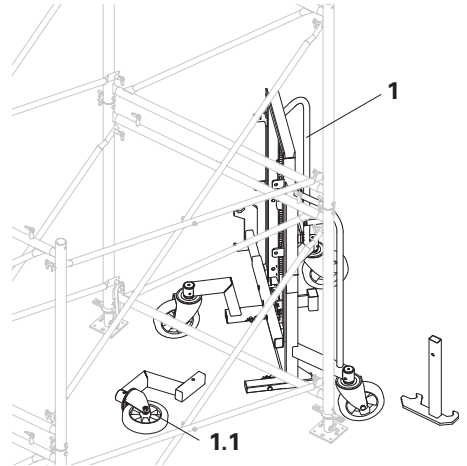

Fig. A4.03
1. Place the Trolley with Winch (1) in an inclined position to the PD 8 / PD 8 Eco.
3. Push the Trolley with Winch in an inclined position under the PD 8 / PD 8 Eco. (Fig. A4.03)